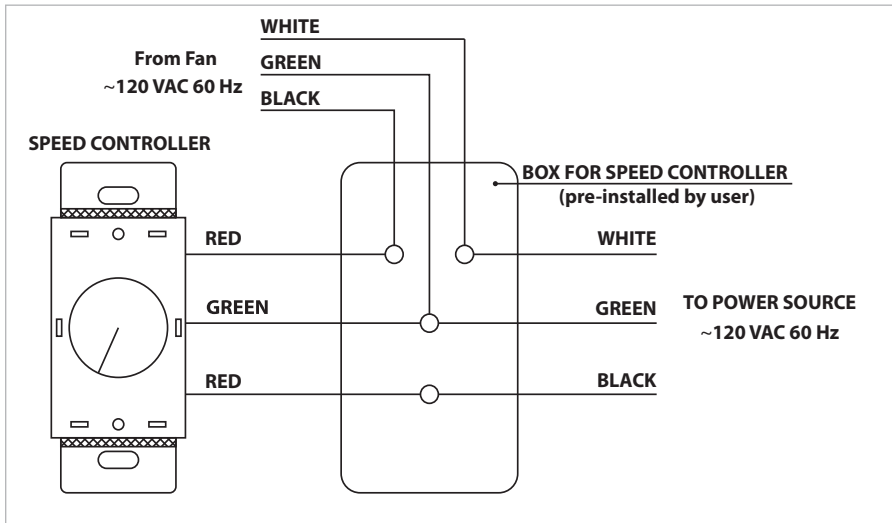

Fig. 7
- Refer to Figure 7 for electrical connections.